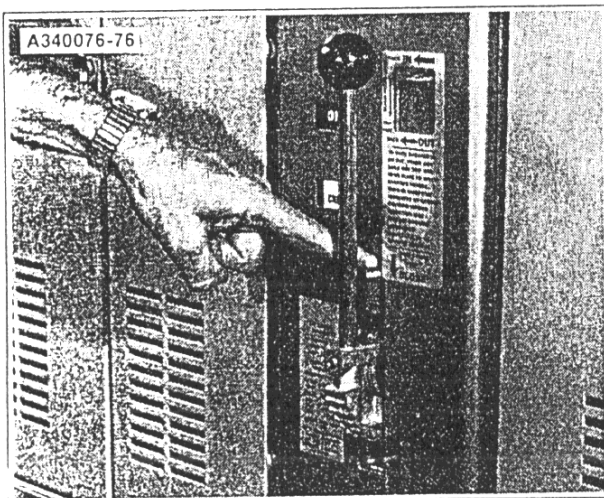

Figure 31. Lowering Interlock Slide
1. Depress trip bar and lower the interlock slide to expose racking screw. While the interlock slide is in this position, the breaker is "trip-free" and cannot be closed. (See Figures 31 and 32.)